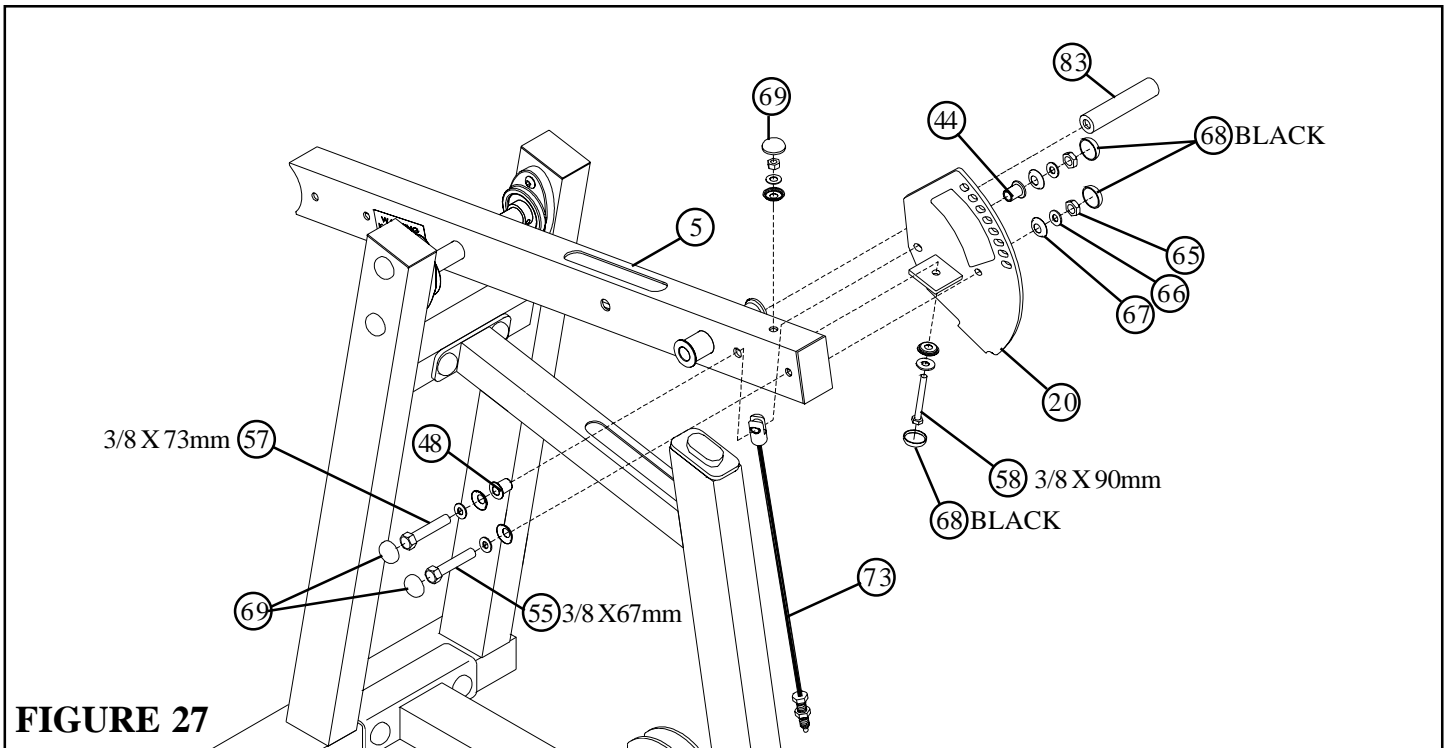

FIGURE 27
- **SECURELY** assemble the MULTI PRESS ADJUST PLATE (20) to the PIVOT ARM (5) using three RH CAPS (69), three BLACK RH CAPS (68), one 3/8 X 67mm BOLTS (55), one 3/8 X 73mm BOLT (57), one 3/8 X 90mm BOLT (58), six 3/8 SAE WASHERS (66), six 3/8 RH WASHERS (67), one 3/8 X 3/4 FLANGE SPACER (48), one 3/8 X 1 FLANGE SPACER (44), one MULTI PRESS CABLE (73) and three 3/8 LOW HEIGHT LOCK NUTS (65) as shown in FIGURE 27. (**NOTE: Assemble the MULTI PRESS CABLE to the second set of holes.**)
- Insert one 5-1/2 TAPPED PIVOT SHAFT (83) into the PIVOT ARM (5).